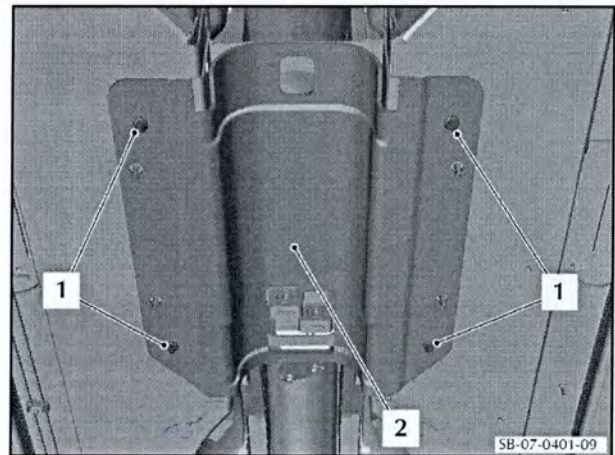

Figure 61
120. Put the tunnel heatshield (2) into position (refer to Figure 61).